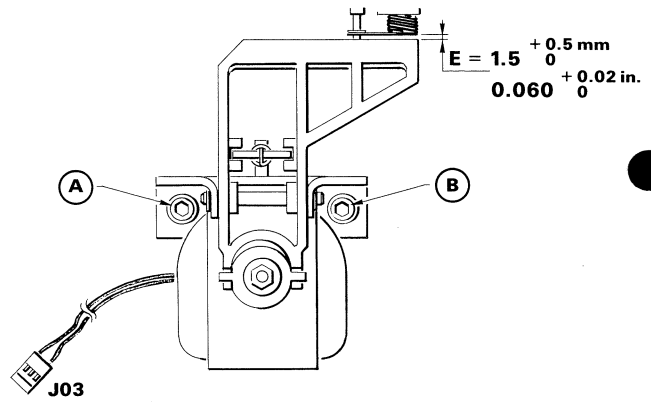

Figure 5.6
Unscrews the two screws A and B. Figure 5.6.
- Displace the assembly so as to obtain an air gap E (See Figure 5.6.) Minimum air gap from unloaded position to loaded position